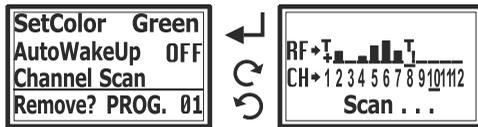

Fig. 21
- (M) AutoWakeUp function: ACT-58TC transmitter does not support this function.
(N) Channel Scan function, Fig. 21:
- (1) Channel Scan function works for the current group.
- (2) Press Channel Scan button to scan the environment for RF field strength to select the best available channel. Turn the knob to a new channel and press to store on the primary screen.